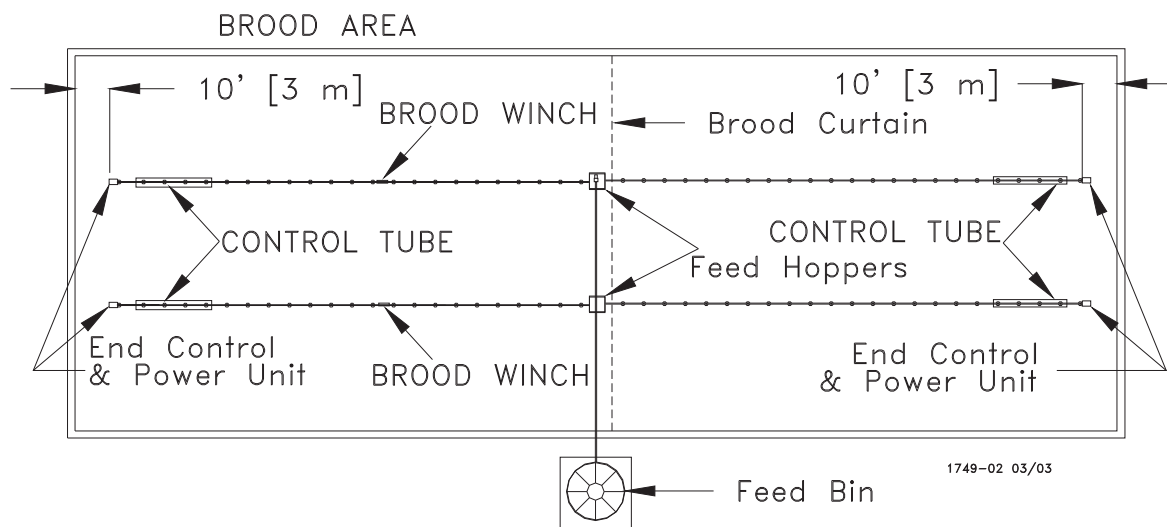

Figure 2. Component location diagram for systems over 350 feet [122 m]. (Top View).
B. Systems with line lengths over 350' [122 m] should be split in the center, as shown in **Figure 2**. This will reduce auger running time and eliminate the need for Mid-Line Controls for partial house brooding.